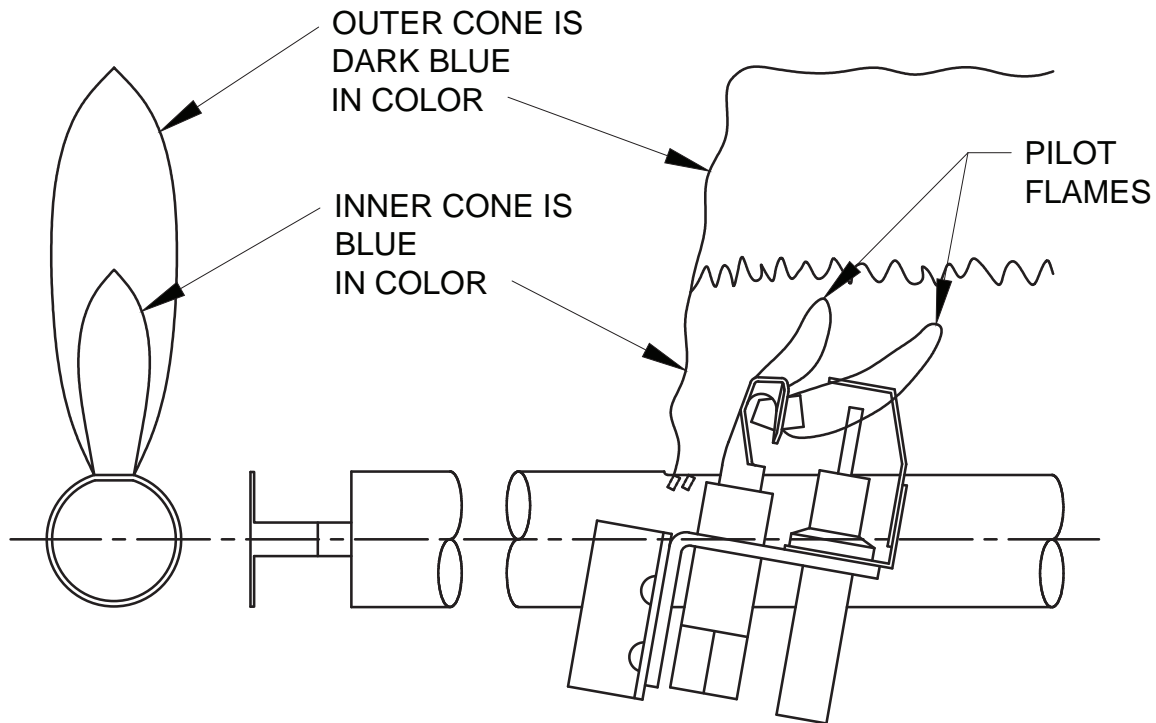

Figure 9.1: Intermittent Pilot and Main Burner Flame
- 3. Check the pilot and main burner flame. See Figure 9.1. The pilot should provide a steady flame enveloping $3/8"$ to $1/2"$ (1 cm to 1.2 cm) of the flame sensor. If required, adjust the pilot as stated in the gas valve manufacturer's instructions. The main burner flame inner cone should be approximately $1-1/2"$ (4 cm) high and should have a very sharp, blue color characteristic.